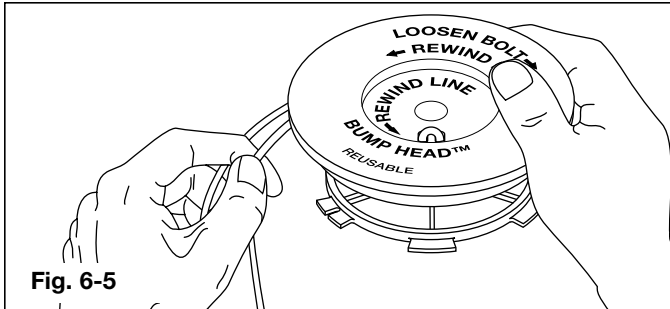

Fig. 6-5
7. Wind the lines in tight even layers, onto the reel (Fig. 6-5). Wind the line in the direction indicated on the inner reel. Place your index finger between the two lines to stop the lines from overlapping. Do not overlap the ends of the line. Proceed to step 11.